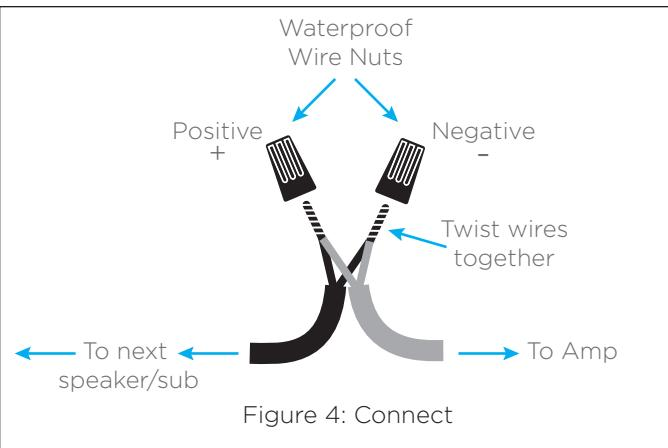

Figure 4: Connect
9. Connect the direct burial wire to each speaker wire, connections should be made with either silicone filled wire connectors or appropriate junction boxes (see Figure 4).